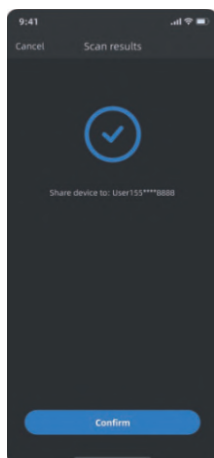

Figure 3
3)Figure 3: When there is only one device under your name, click "**Confirm**" to complete the sharing;If it fails, you can follow the prompts to share again.